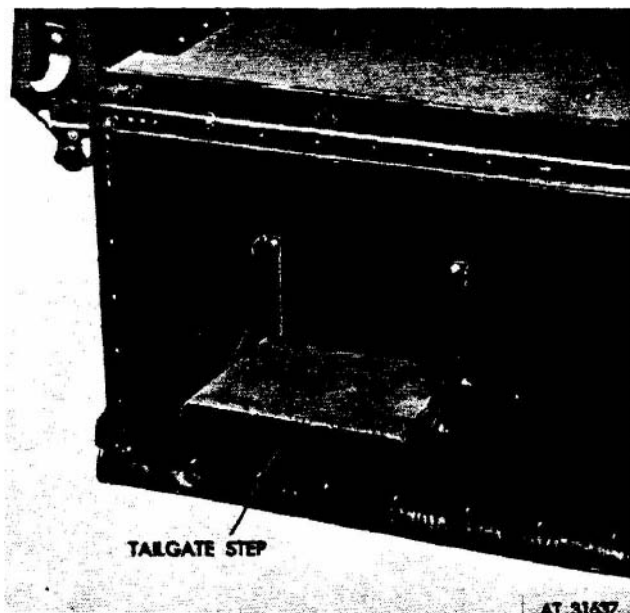

Figure 1-19. M792 ambulance, tailgate step.
1. *Tailgate Step.* A step is mounted on the inside wall of the tailgate (fig 1-19). When the tailgate is fully opened and hanging down, the step is available for ease of accessibility into the carrier or exit from the carrier by ambulatory personnel.